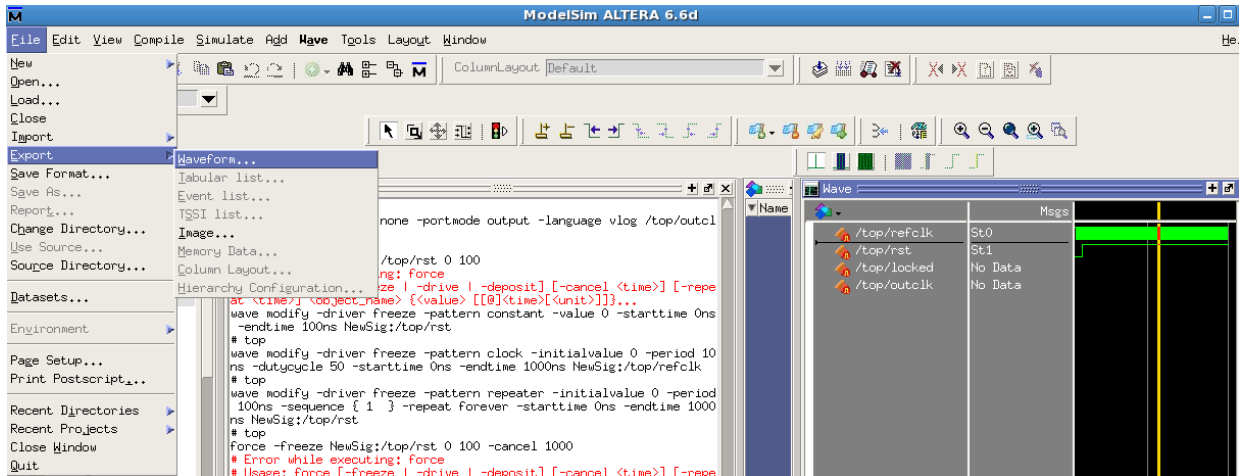

Figure 8
- a. Once you are done with creating the input test vectors, click on File -> Export -> Waveform as shown in Figure 8.